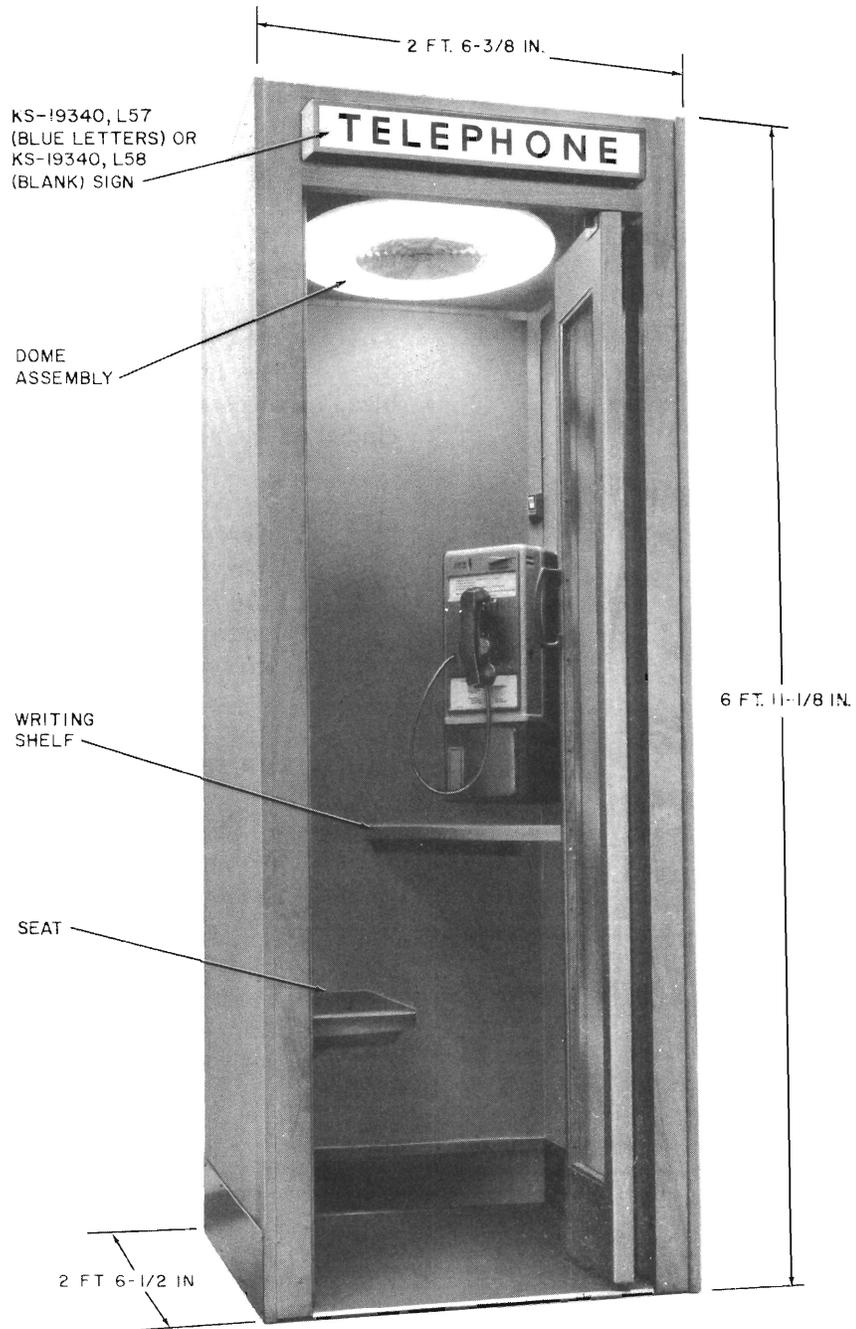

Fig. 1 — KS-19340 Booth
**2.01** The overall dimensions of a single booth are shown on Fig. 1.